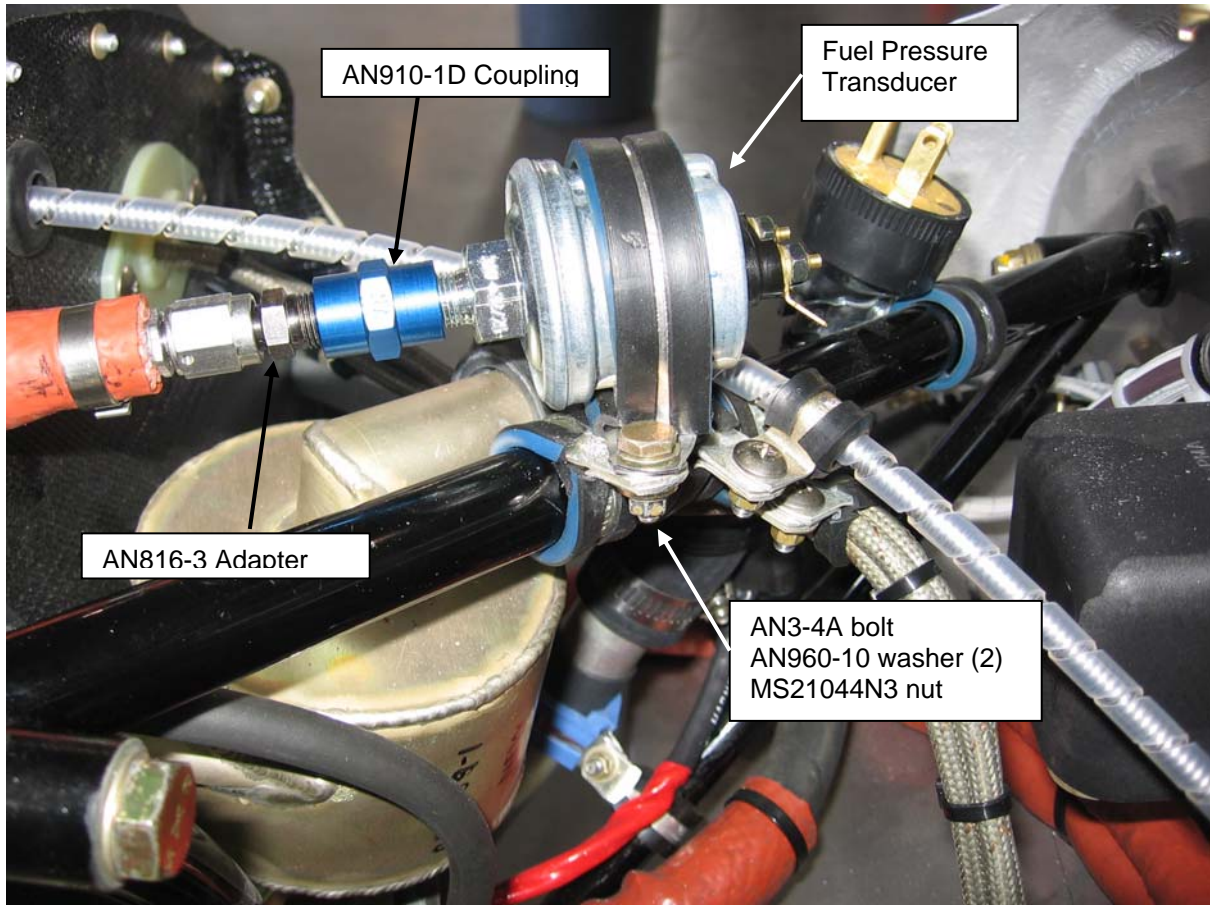

Figure 3 – Fuel Pressure Transducer Installation
- 10.4.4** Install the fuel pressure transducer on the fuel hose AE3660001B0084 with AN816-3 Adapter and AN910-1D coupling then install pressure transducer on engine mount with P-clamp MS21919WCG24, AN3-4A bolt, AN960-10 washers and MS21044N3 nut. Refer to Figure 3.